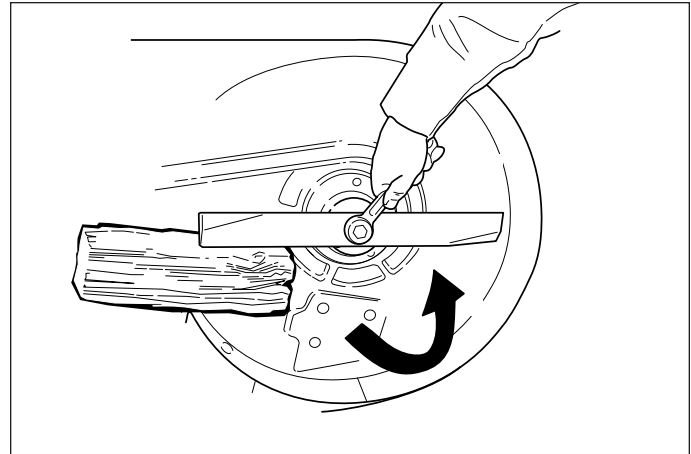

Figure 16. Blade Removal
2. See Figure 16. To remove blade for sharpening, use a block of wood to prevent blade rotation while loosening the capscrew.